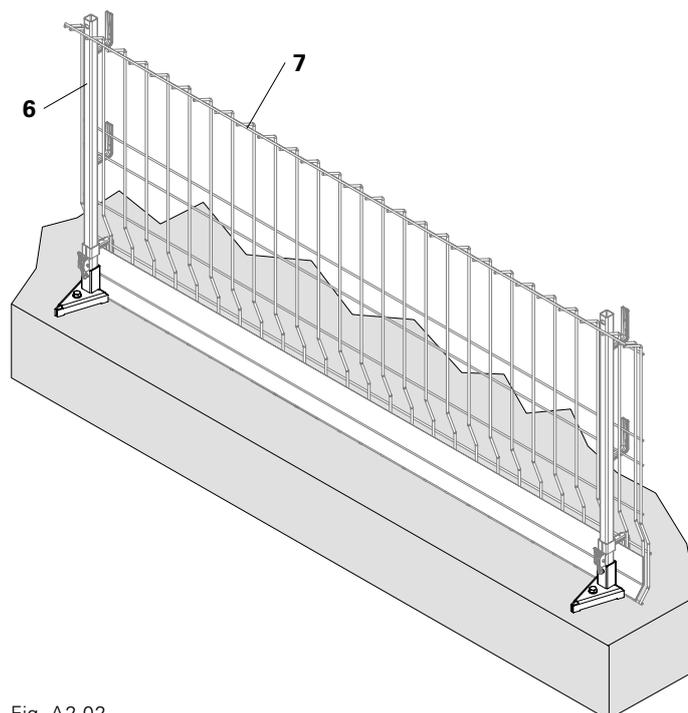

Fig. A2.02
3. Insert Post (6) in the rectangular tube (1a), see section A3.
4. Mount Side Mesh Barrier (7), see section A4. (Fig. A2.02)